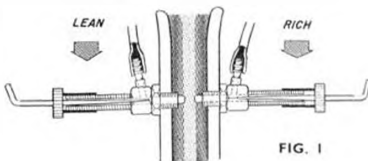

FIG. 1
Take a pendulum of length (l), suspended at one end, with a mass (m) attached to its other end. If the pendulum is in a swinging motion you will feel a certain resistance on trying to stop it. This resistance to a change in motion of a body rotating or oscillating round an axis is called its moment of inertia, and is designated (I). The larger it is the more persevering will the pendulum be in its oscillations. If you double the mass (m) the moment of inertia, too, will be doubled. But if you now leave the mass (m) as it was and double the length (l) instead, the moment of inertia will grow four times! If you treble the length (l) will grow to nine times its original value. From this we infer that the formula of the moment of inertia of a body of the type just shown (Fig. 1) is
Readers may remember the "Go-jet" an American accessory in the form of a small needle valve assembly supplied with self tapping screw. Reader John Toomer, also from California, has sent sketches, see Fig. 1, showing how a single feed engine can be converted for two-speed operation. The old spray bar is taken out and the holes tapped with screw provided, the two "Go-jets" are then screwed in as shown. This scheme is used extensively by local radio fliers with great success. We hope that some enterprising accessory manufacturer will produce a counterpart of the "Go-jet" for the British market; meantime, it must be left to enthusiasts to make up their own.
Probably more important from the point of view of actual friction generated by the bearing is the longitudinal shape of the hole. If the hole is barrel shaped—shown exaggerated in Fig. 1—then this is almost certain to cause trouble since the shaft is supported by line contact